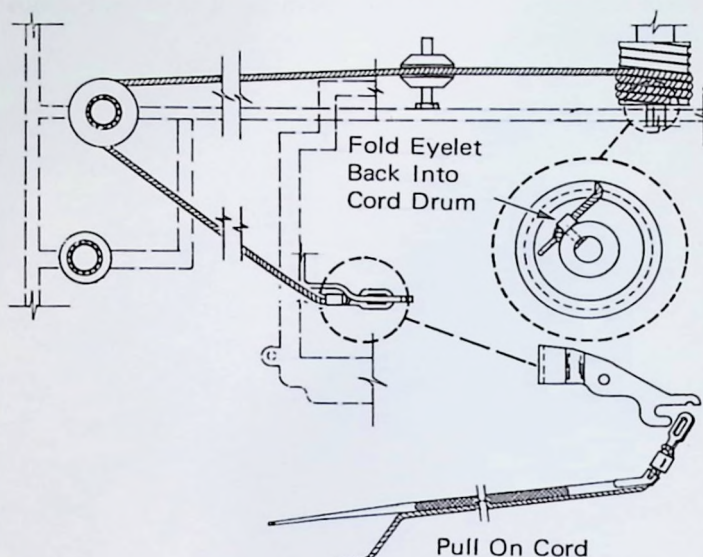

Figure 16
6. With the carrier to the right, connect the cord to the carrier return cord drum, position cord to the left over the idler pulley, around the left rear corner pulley and connect to the carrier using scissor clamps or the pusher end of a spring hook. (Figure 16)